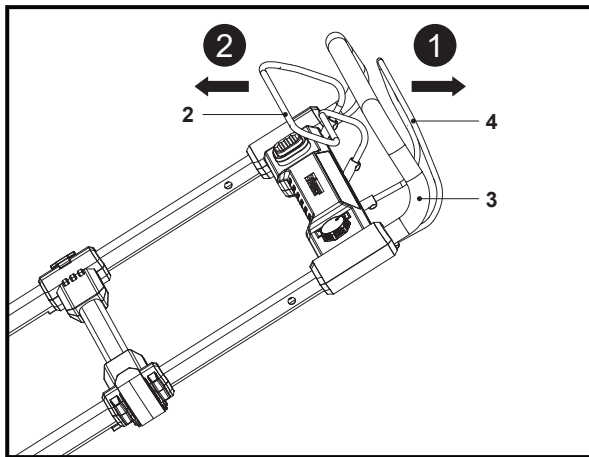

Fig. 21
1. Release the self-propelling lever (4) to stop the self-propelling function (Fig. 21, step 1).
2. Release the start lever (2) to stop the lawn mower (Fig. 21, step 2).